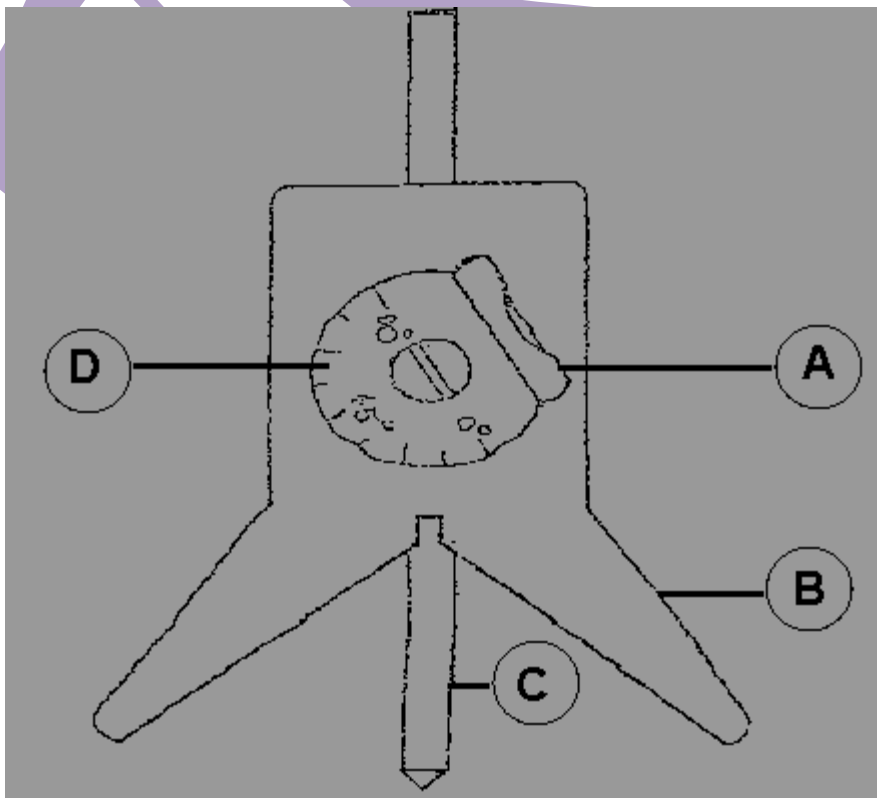

FIGURE 4
4.1 FIGURE 4, DIAGRAM SHEET B (attached), shows an outside view of a centre finder.